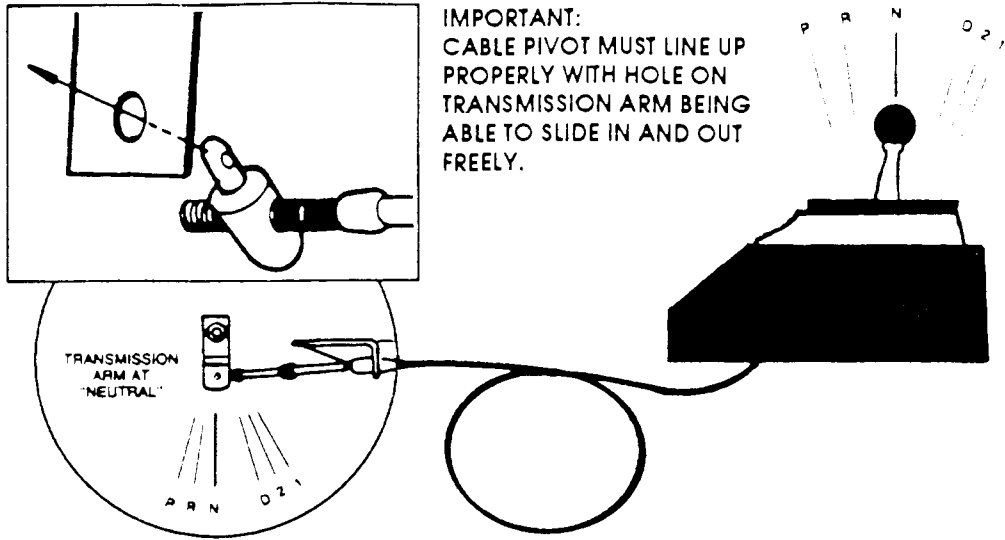

FIG. 8
1. Pre-wire Hurst neutral/park start switch (front switch located on shifter assembly) using two (2) female crimp connectors (Item #22) and two (2) suitable lengths of 16 gauge insulated automotive grade wire (not supplied). Strip 1/4" of insulation off each end of wire and firmly crimp female connector onto one end of each wire. Push female connectors onto switch terminals. Route wiring away from shifter assembly so it will not interfere with internal moving parts. (Refer to Figure 8).
2. Locate wire connected to starter solenoid terminal marked "S" and trace to original equipment neutral start switch. Locate wire connected to "Solenoid" terminal of ignition switch and also trace to original equipment start switch. Disconnect both wires leading to original equipment switch and connect to Hurst neutral/park start switch wire leads. Use correct size insulated electrical butt connectors to properly connect the wires together. (Refer to Figure 8).
1. Pre-wire Hurst back-up light switch (rear switch located on shifter assembly) using two (2) female crimp connectors (Item #22) and two (2) suitable lengths of 16 gauge insulated automotive grade wire (not supplied). Strip 1/4" of insulation off each end of wire and firmly crimp female connector onto one end of each wire. Push female connectors onto switch terminals. Route wiring away from shifter assembly so it will not interfere with internal moving parts (Refer to Figure 8).
2. Locate wire lead connected to back-up lights and trace to the original equipment back-up light switch. Disconnect both wires leading to the back-up light switch and connect to Hurst back-up light switch wire leads. Use correct size insulated electrical butt connectors to properly connect the wires together. Note: One wire lead from the Hurst back up light switch must have 12 volt power when the ignition key is in the "On" position. (Refer to Figure 8).